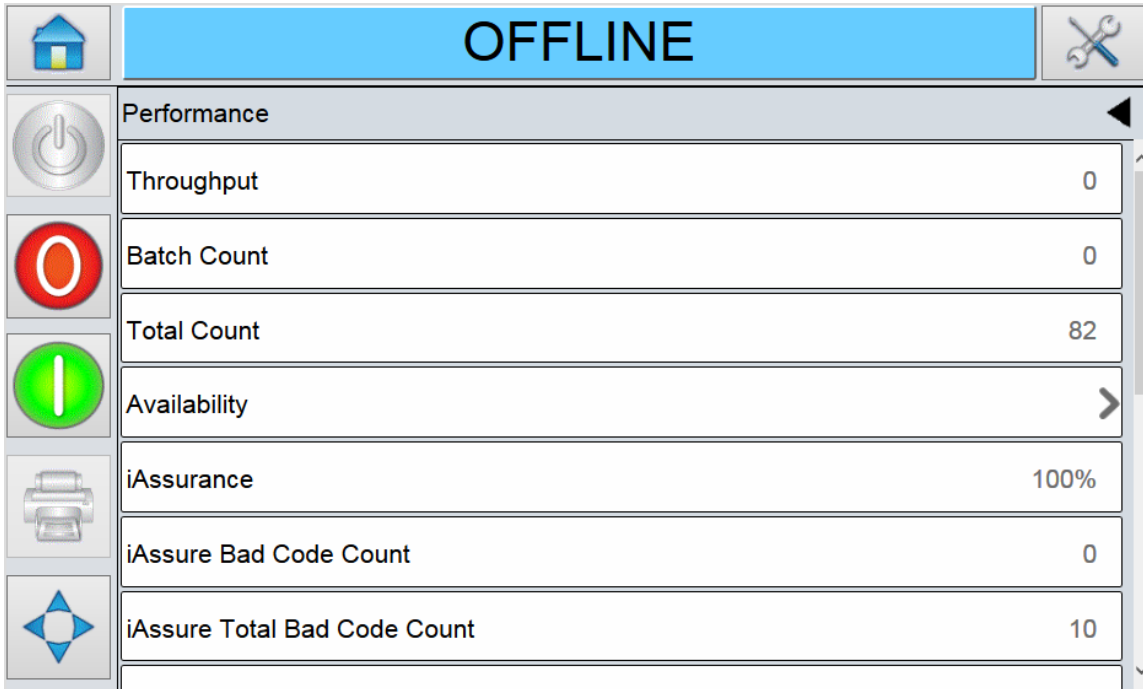

Figure 5-4: Performance Screen
Touch the Performance area on the Home screen. The Performance screen opens as shown in Figure 5-4.
1. Touch the Performance area on the Home screen. The Performance screen opens as shown in (Figure 5-4 on page 5-6). Scroll down to view the iAssure metric. Refer Table 5-4 on page 5-6 for more information on the iAssure metrics.